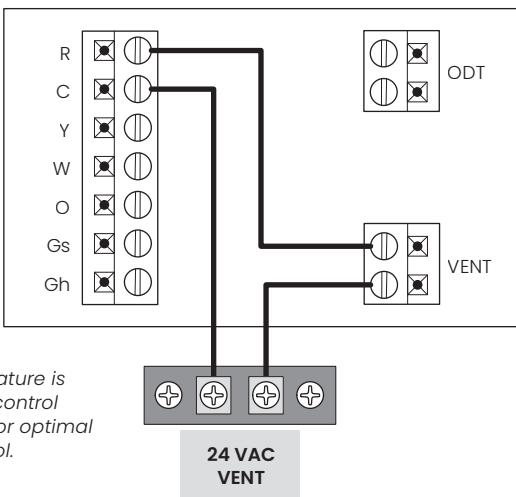

FIGURE 5: WIRING TO MODEL 8144NC FRESH AIR VENTILATOR
3. Run a 2-conductor cable from the control to either the damper in Model 8126X installations or to the Fresh Air Ventilator and wire according to **FIGURE 3** (Model 8140NC or Model 8145NC), **FIGURE 4** (Model 8142NC), **FIGURE 5** (Model 8144NC) or **FIGURE 6** (damper).